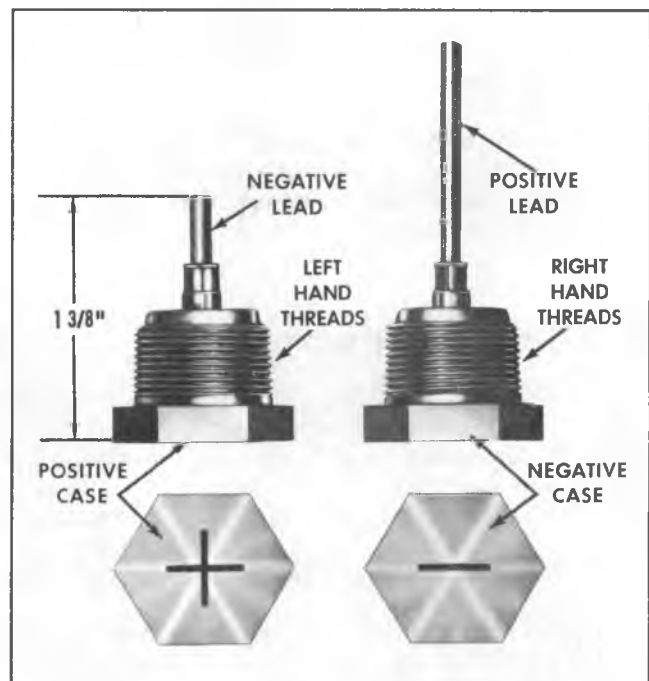

Fig. 13C--Diodes Showing Polarity Marking On Case
3. Select diode with proper polarity marking (Fig. 13C).